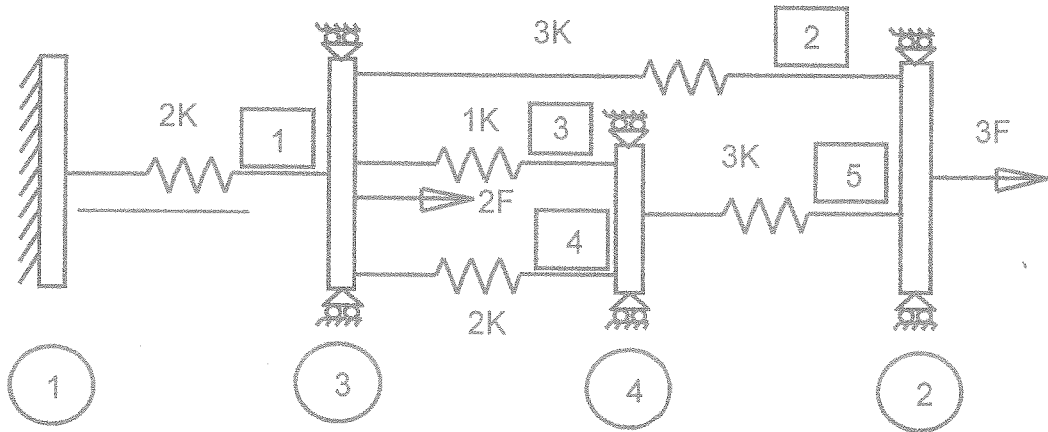

Fig. Q1
- Q1 Fig. Q1 shows a one dimensional spring assembly. Element numbers are boxed and node numbers are circled. Elements 1 and 4 have stiffness of  $2K$ , while elements 3 has stiffness  $1K$ . The rest of the elements has stiffness of  $3K$ .
- Assemble the stiffness matrix of the system of springs following the node numbering given in Fig. Q1
- Q5. A steel frame structure shown in Fig. Q5(a) is subjected to a point load P at the mid span of beam BC. The beam is rigidly fixed to a column at one end and the other end is rested on a roller support. The base of the column is encased to a concrete pier foundation. The second moment of area (I) for the beam and the column are as given in Fig. Q5(a). Fixed end moment for a centrally loaded beam is as indicated in Fig. Q1(b). The flexibility matrix for a beam element with clockwise moment is given